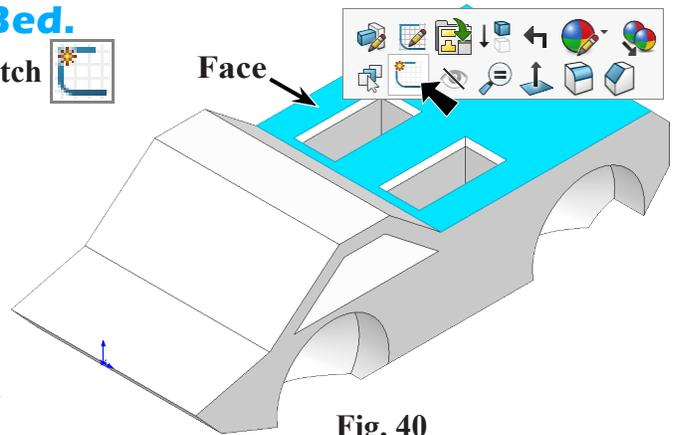

Fig. 40
Step 1. Click the **top face of bed** and click **Sketch** on the context toolbar, **Fig. 40**.